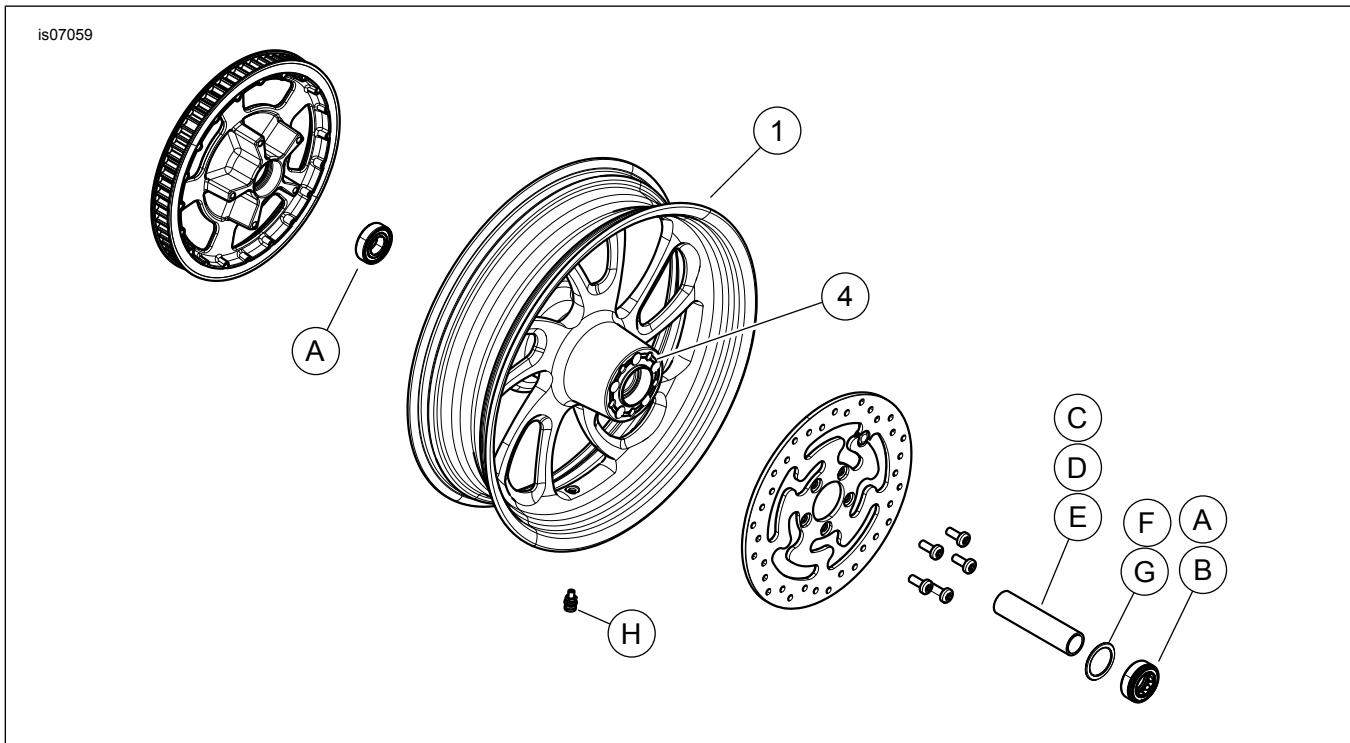

Figure 1. Service Parts: Rear Blade Wheels
See Figure 1 and Service Parts Tables.
- See Figure 1. Install valve stem assembly (H) on wheel. Refer to the service manual.